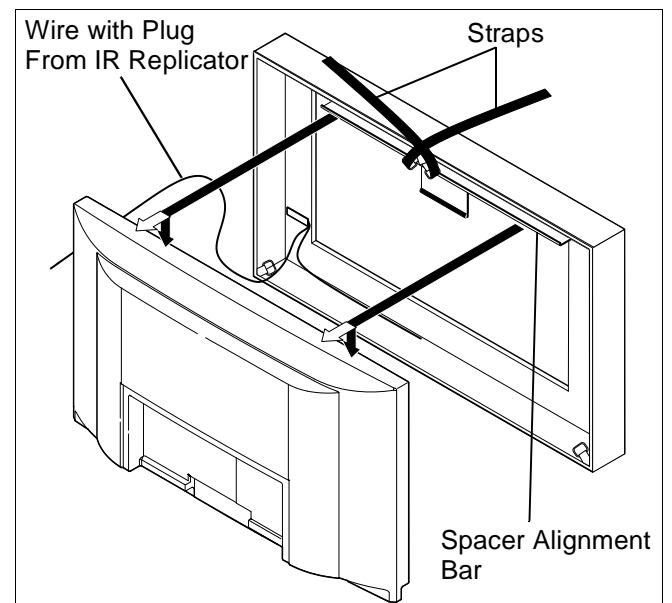

Figure 7
14. Pull straps on frame back over top of frame. (See Figure 7)
15. Align back side of frame with front of display. (See Figure 7)
16. Route wire from IR Replicator with plug out of frame at lower corner. (See Figure 7)